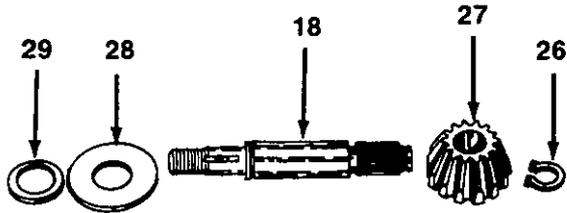

FIGURE 14.
12. Disassemble the input shaft and inspect parts. See figures 14.